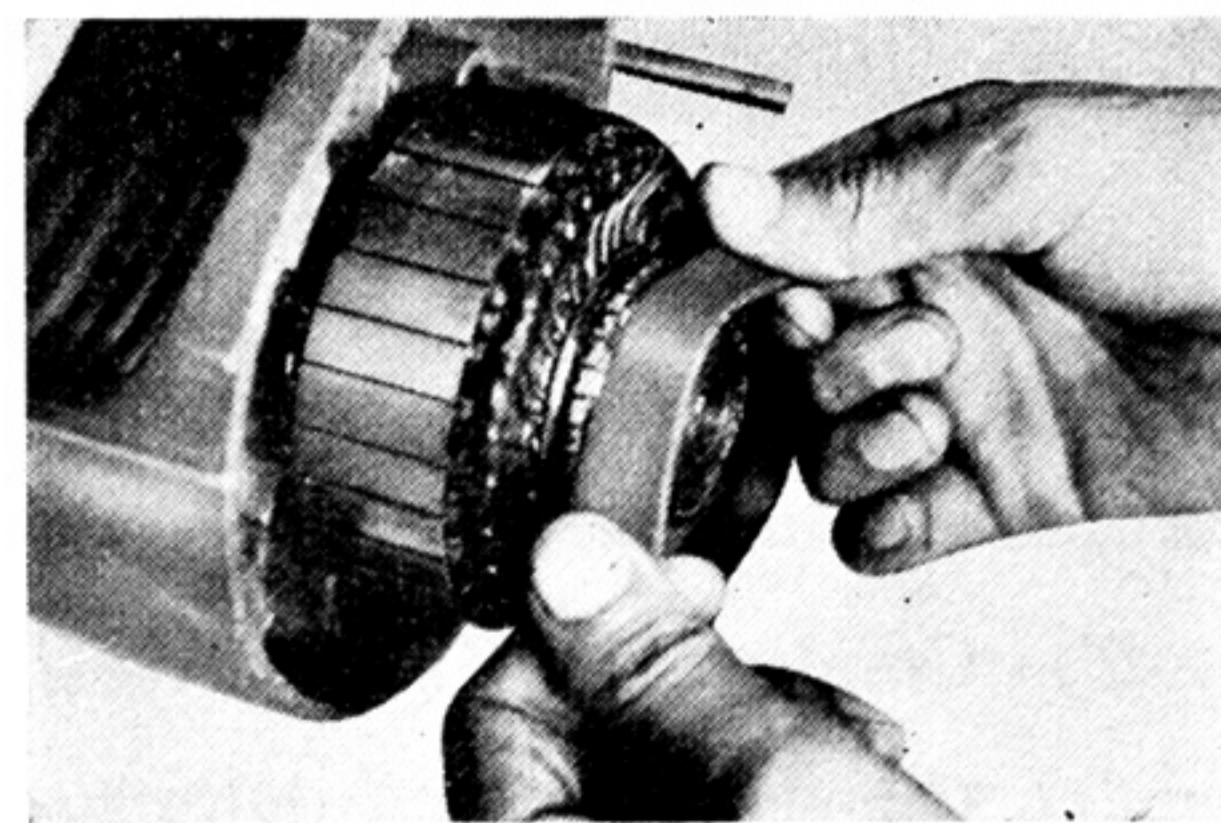

Fig. 5-4-5
- 1) Thoroughly clean the commutator of oil and dirt. If the commutator is rough or dulled with brush dust, polish it with fine grain sandpaper (#400 - 600) as shown in Fig. 5-4-5, by rotating the armature in order to polish its surface evenly. Partial polishing will only deform the commutator and shorten brush life.